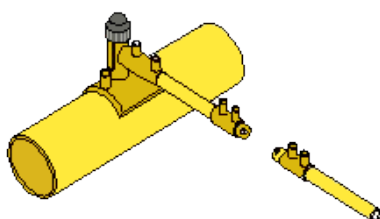

Figure 33 - - PE service capped off
6. Fit electrofusion caps to both ends of service pipe. Figure 33.
13. Fit an electrofusion cap to both ends of service pipe Figure 33.